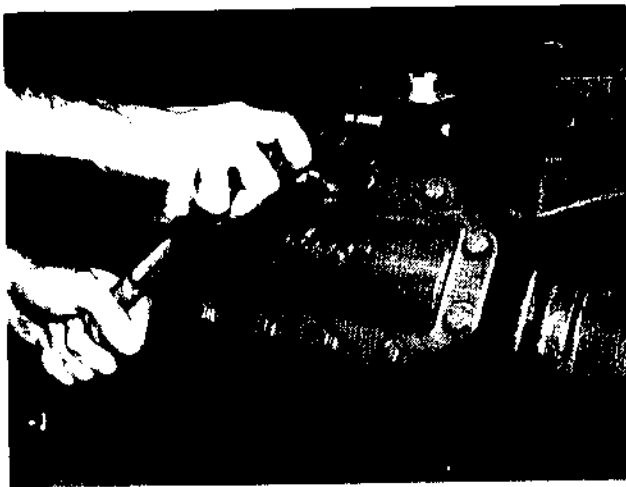

Figure 1
1. Remove the cylinder head bolts (Figure 1).